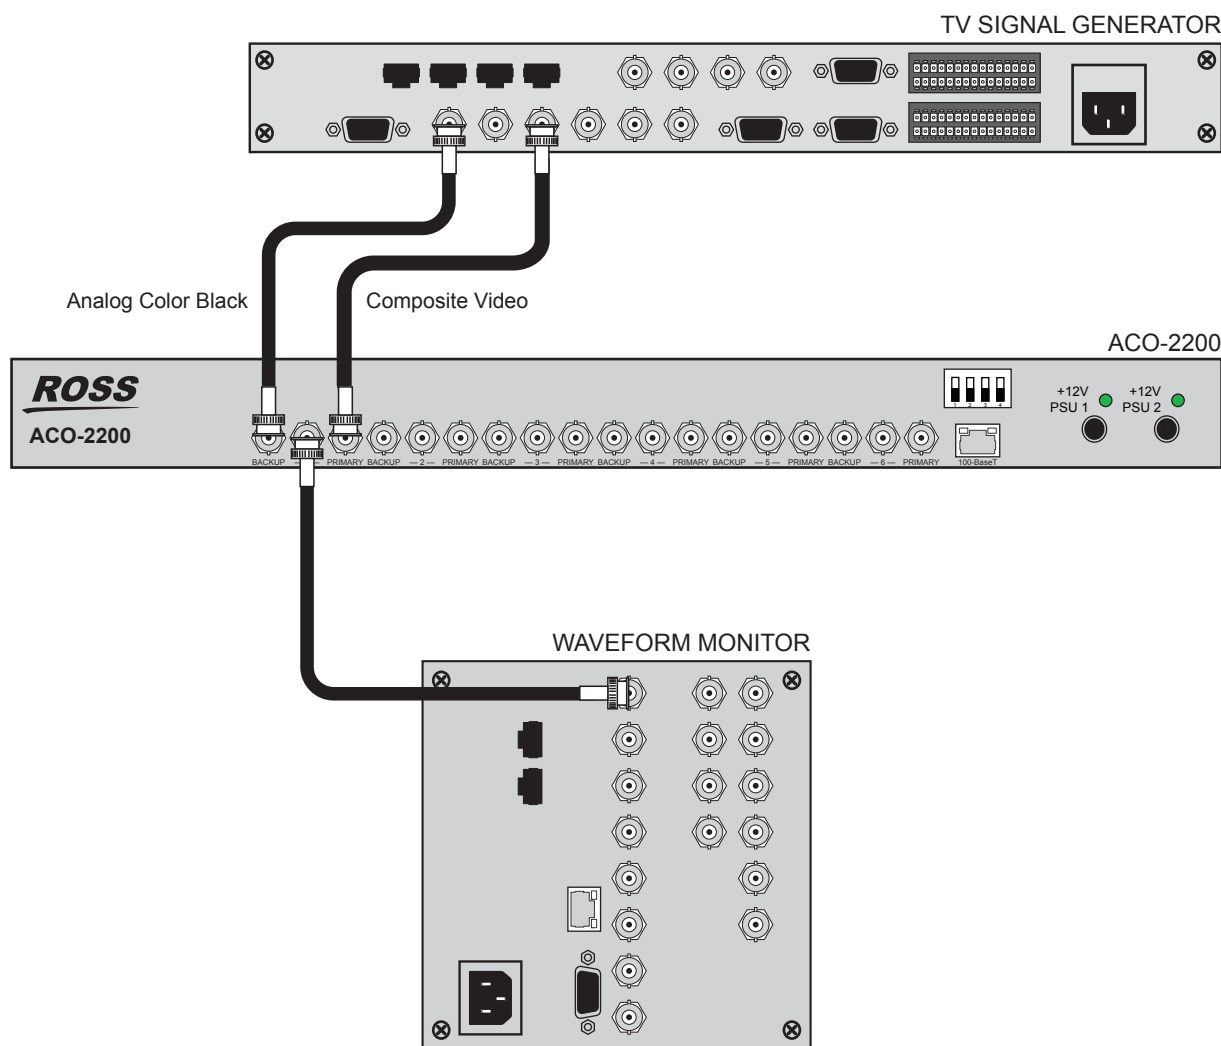

Figure 7 Functional Check Connections
2. Connect the ACO-2200 as shown in **Figure 7**. Ensure that the ACO-2200 output is properly terminated at the monitoring device.